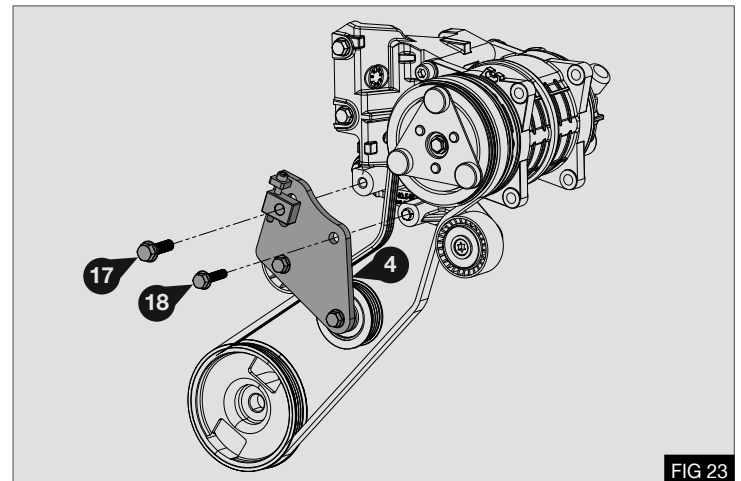

FIG 23
6. Fit tensioner assembly (4) onto bracket using M10 x 35 flange bolt (17) through the adjuster block (9) and into the bracket (1), install M8 x 35 flange bolt (18) through adjuster plate (4) into bracket (1) - Fig 23